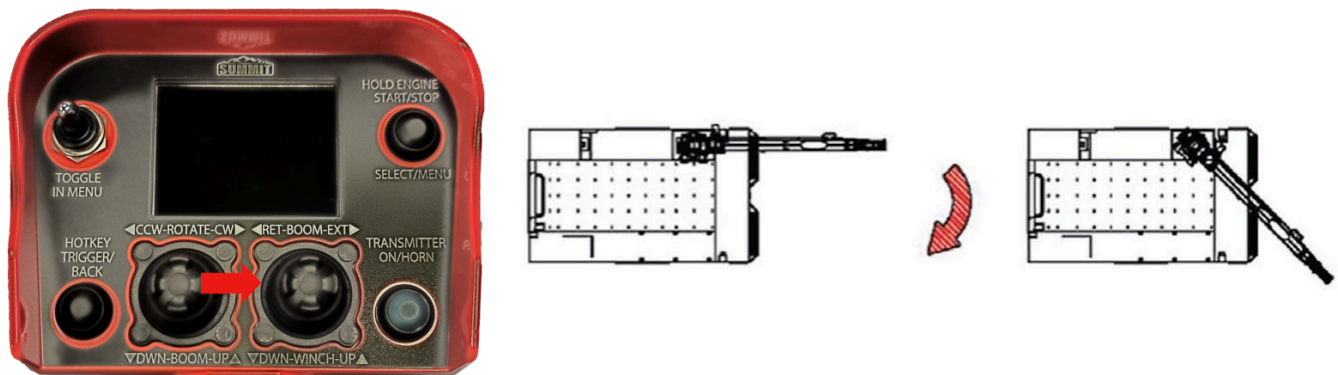

Figure 2-50.
3. Press the left joystick to the right to rotate the boom clockwise (see Figure 2-50).